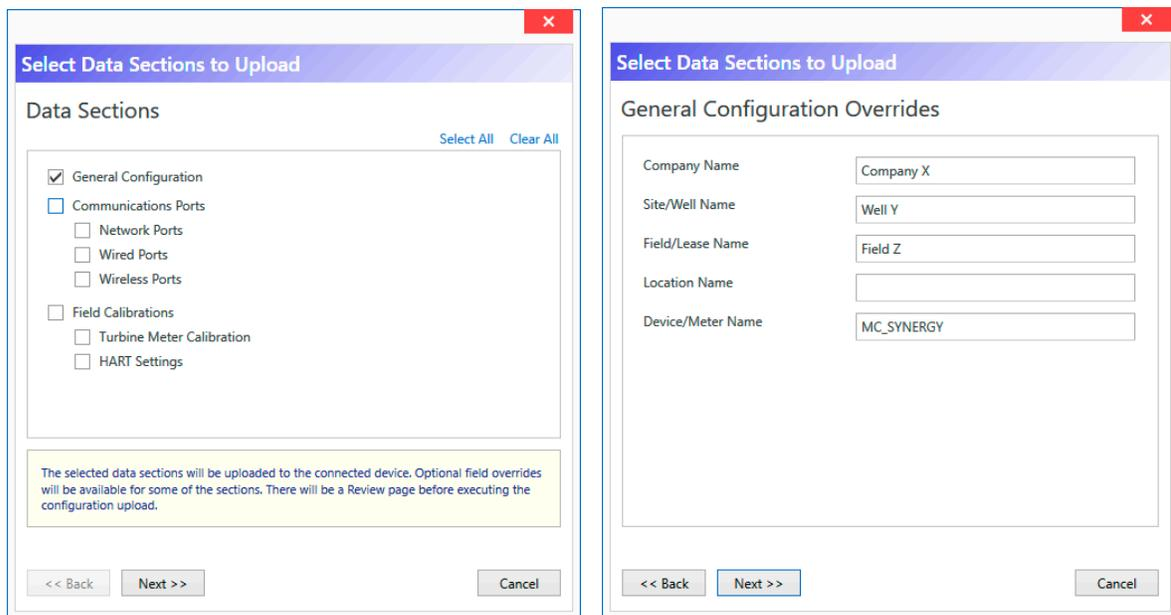

Figure 10.3—Selection of data sections and overrides to be included in upload
2. Select individual data sections to include in the upload, or click the Select All link in the top right corner to upload the entire content of the SRF configuration file (Figure 10.3, page 87).